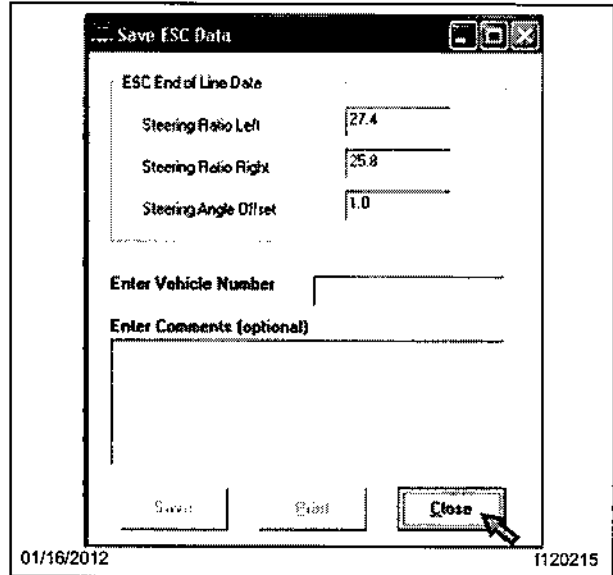

Fig. 18, ESC End of Line Data
- A message box with the steering ratio and steering angle offset values will appear. Click "Close". See Fig. 18.